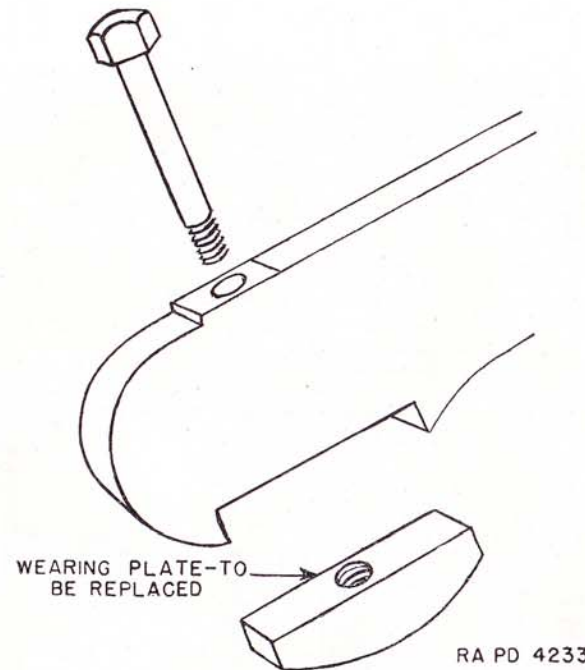

FIGURE 52.—Removal of wearing plate from bogie lever arm.
(10) To replace the spring, reverse the procedure, using jack to raise lever spring plate, and *spring* it in place.
*g. Wearing plates.*—Replace worn or damaged wearing plates as shown in figure 52.